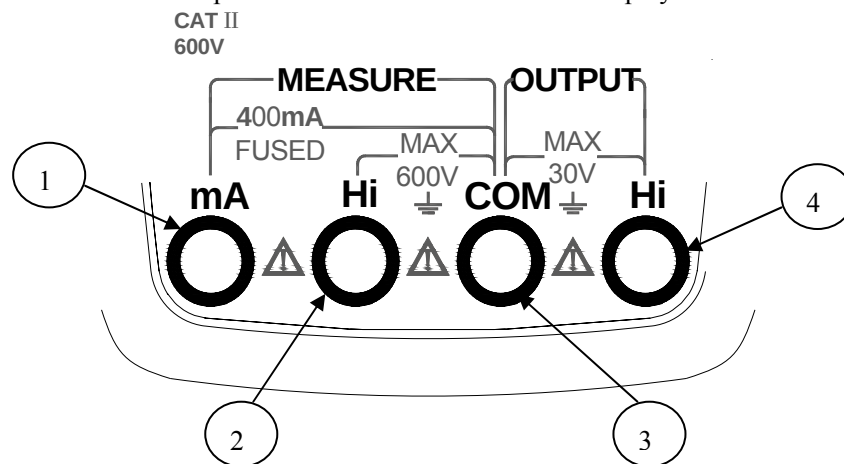

Figure 2.Measure/output Jacks
- Figure 2 and Table 2 describe the measure/output jacks.